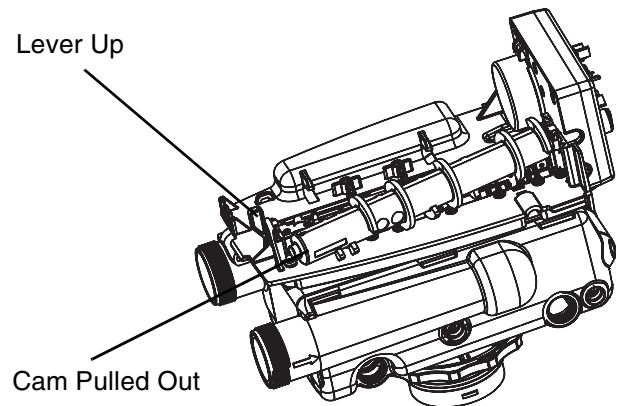

Figure 13
4. Rotate the locking lever to point up (Figure 13).